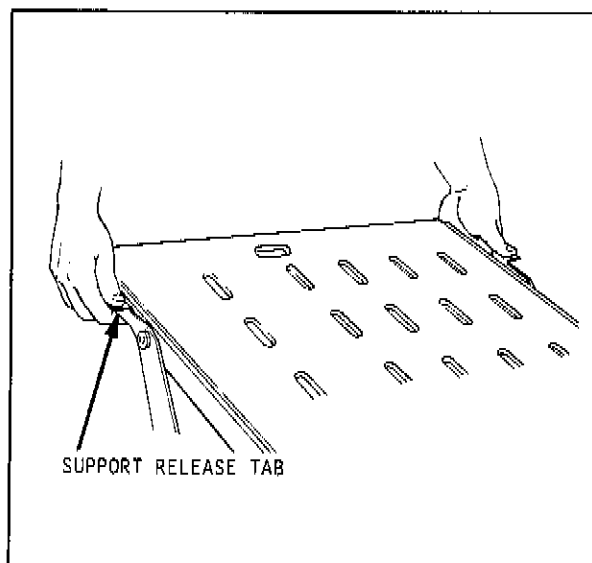

Figure S-33a Version Number 1
- * On version number 1, hold the assembly as shown in Figure S-33a. While your fingers are supporting the magazine assembly on the bottom side, press down on the support release tabs with your thumbs and lower the magazine back into the vending position.
Your hands must be in the position shown in Figure S-33a. In addition, continue to hold the magazine assembly until it has been fully lowered. You may be injured if you do not follow this procedure.